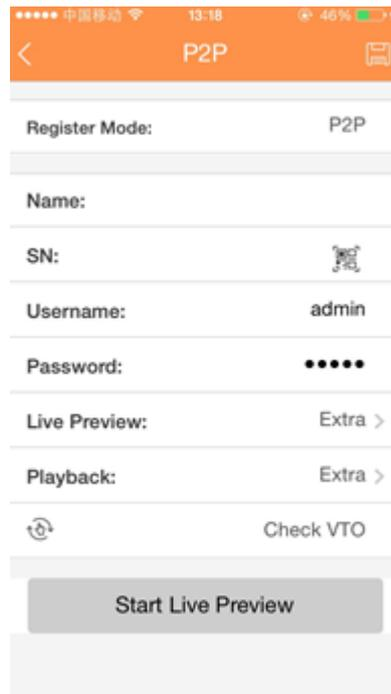

Figure 4-13
- Tap Device manager button, you can use several modes (P2P/DDNS/IP and etc) to add the device. Click  to save current setup. Tap Start Live preview to view all-channel video from the connected device. See Figure 4-13.